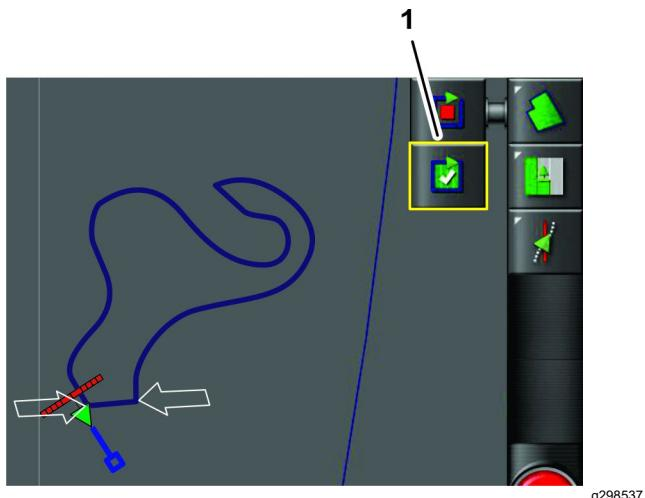

Figure 45
- Press the COMPLETE FIELD BOUNDARY RECORDING icon (Figure 45).